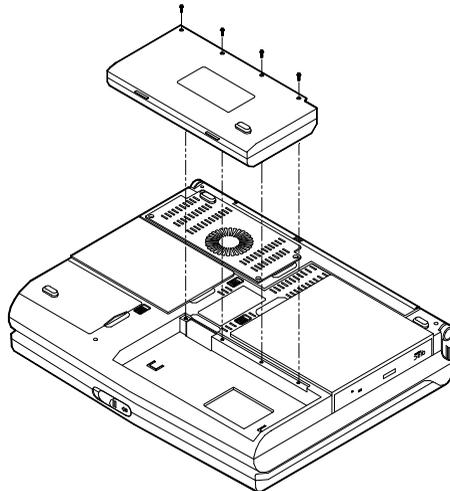

Figure 1-4
- 3** Carefully lift the battery pack out of the computer (Figure 1-4).